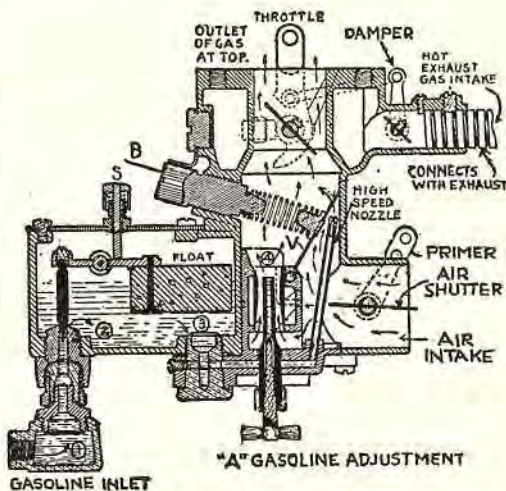

Fig. 7. Sectional view of Marvel model "E" carburetor.
When the engine is idling, the hinged auxiliary air valve (V) (Fig. 7) rides on its seat against the bore of the mixing chamber, thus closing off the air passage past the tall high-speed nozzle jet, rendering it ineffective. At this time the air passes up through the small venturi surrounding the low-speed jet.